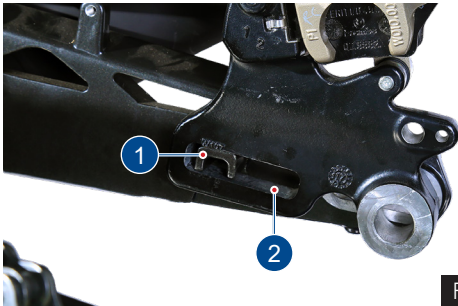

Fig. 62
- Place the brake-caliper (1) on the guide (2) of the swing arm as shown (ref. Fig. 62)